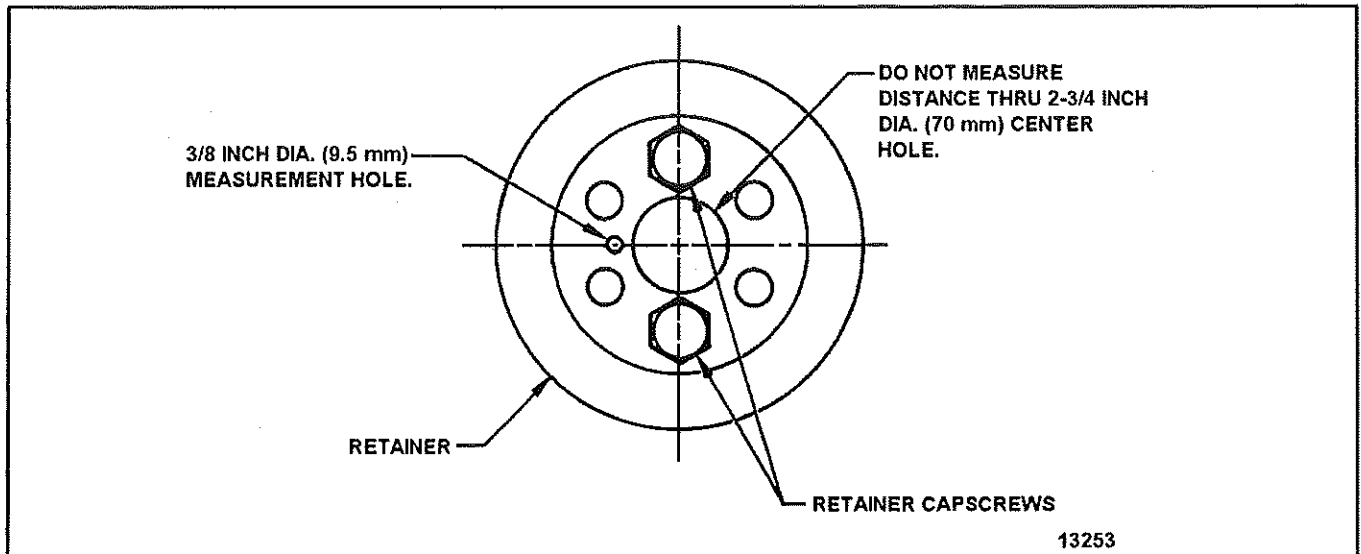

FIGURE 2 - FRONT WHEEL BEARING RETAINERS
14. Remove the retaining cap screws as indicated in Figure 2.